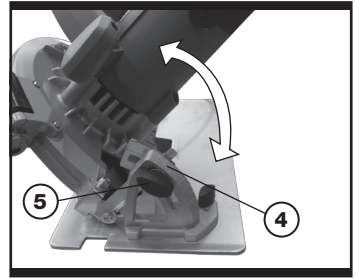

Fig. 5
BASE PLATE ANGLE ADJUSTMENT (See Fig. 5)
Used for making cuts parallel to a work piece edge at a chosen distance. Slide the parallel guide arm through both fixtures to achieve the required cutting distance and tighten screw to lock into position (See Fig. 5). It can be used from both sides of the base plate (14). There is a cutting guide notch on the front of the base plate (14) for using with a parallel guide (9). For straight cuts, use the 0° guide mark to align with your parallel guide scale. For a 45° bevel cut, use the 45° guide mark to align with your parallel guide scale. Securely clamp the parallel guide (9). Always make a trial cut to check the setting.